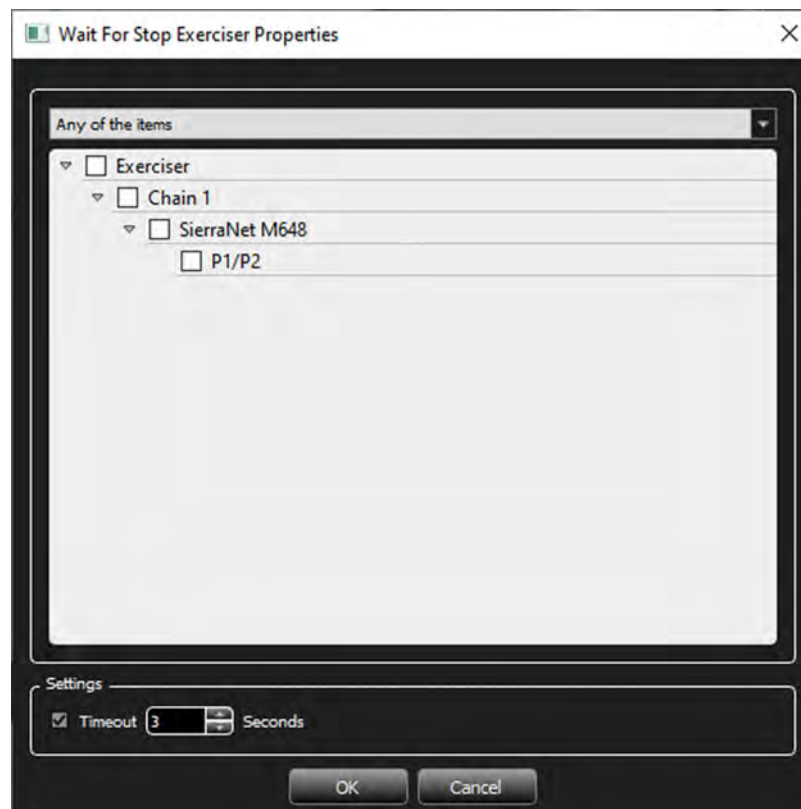

Figure 7.12: Wait For Stop Exerciser Properties
1. Drag and drop the **Wait For Stop Exerciser** event to display the Wait For Stop Exerciser Properties dialog (Figure 7.12).